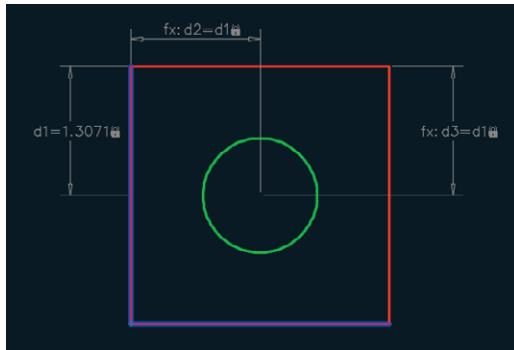

FIGURE 12.7 Adding another linear constraint that is calculated by a function
6. Press the spacebar to repeat the DCLINEAR (for Dimensional Constraint Linear) command. Click the first constraint point in the upper-right corner of the rectangle. Click the circle to accept its center as the second constraint point. Move the cursor to the right, and click to place the vertical dimension line to the right of the rectangle. Type **d3=d1**, and press Enter. The circle is now centered within the square (see Figure 12.7).